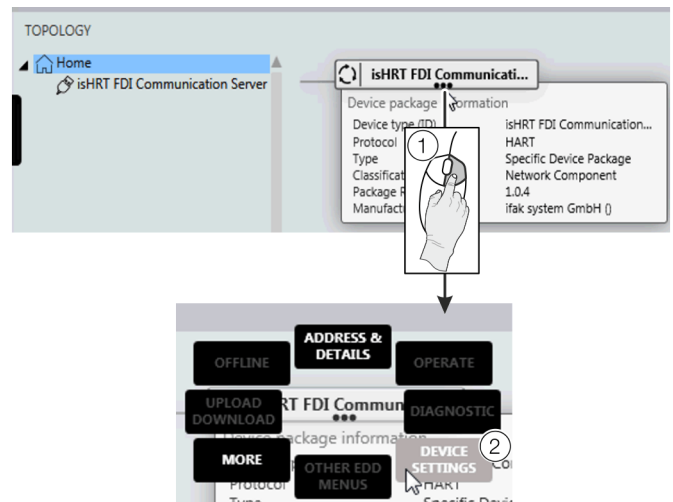

Figure 81: Select FIM – 'Device Settings'
6. Right-click ① as shown in Figure 81.
7. Select 'DEVICE SETTINGS' ② as shown in Figure 81.